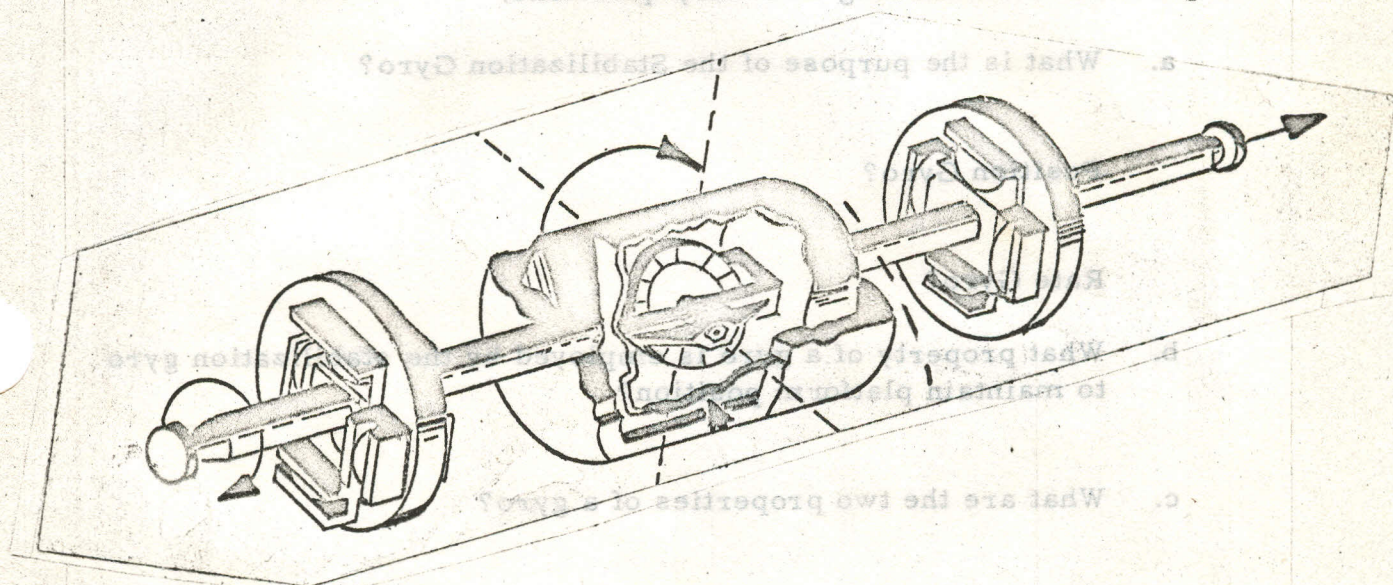

Figure 1
1. Locate and identify the components shown in the gyro diagram of Figure 1. Record the name of the components on the diagram.